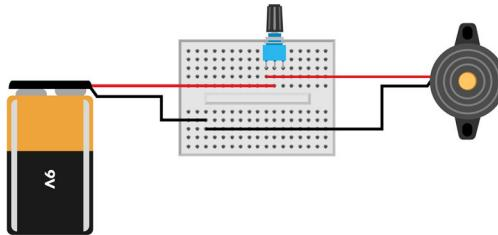

Figure 2-3. Circuit diagram for buzzer volume control
1. Orient your breadboard so that it is wider than it is tall, as shown in Figure 2-3.